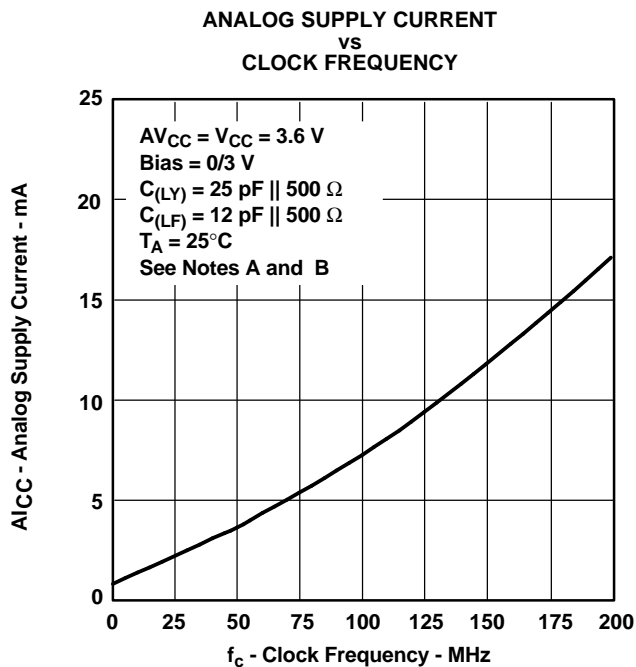
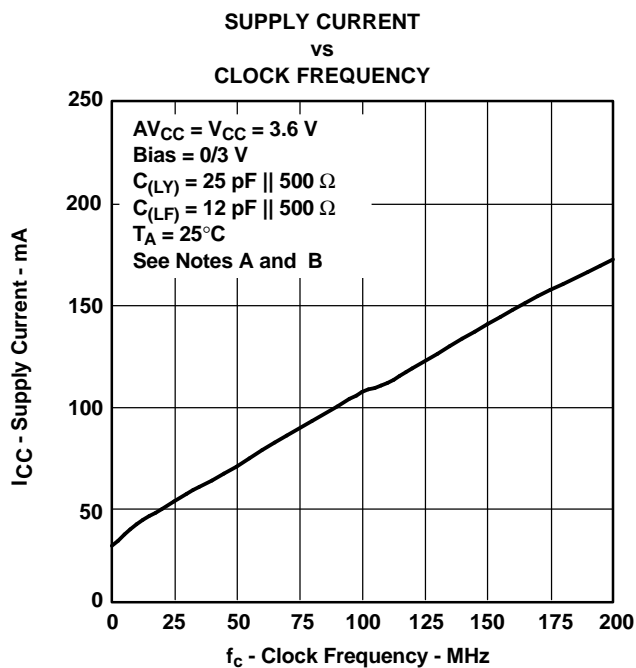

Figure 8.
Figure 9.
(2) For dynamic ICC vs Frequency, see Figure 8 and Figure 9.